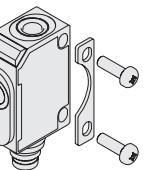

Fig. 1: Attachment with mounting plate
- Mount the sensor at the installation site with the aid of the enclosed mounting plate (see Fig. 1). Maximum torque of attachment screw: 0,5 Nm